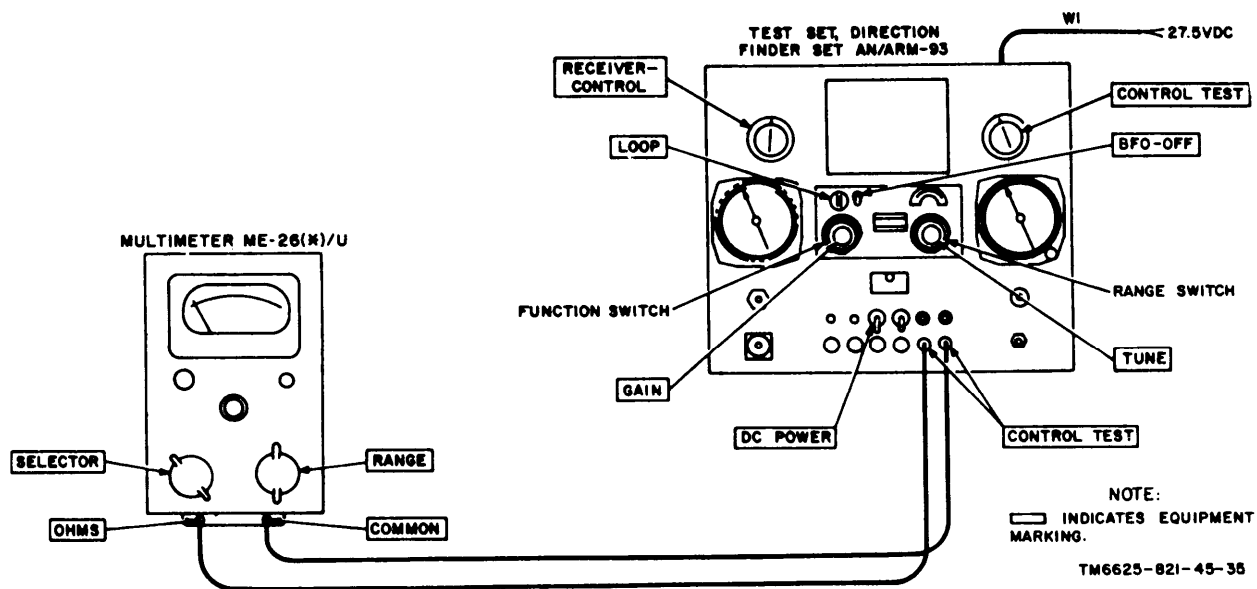

Figure 4-5. Control unit test setup.
- b. *Test Connections and Conditions.* Set test set DC POWER switch to OFF position. Set RECEIVER-CONTROL to CONTROL position. Replace case of control unit and mount control unit in panel of test set. Connect ME-26(*)/U as shown in figure 4-5.